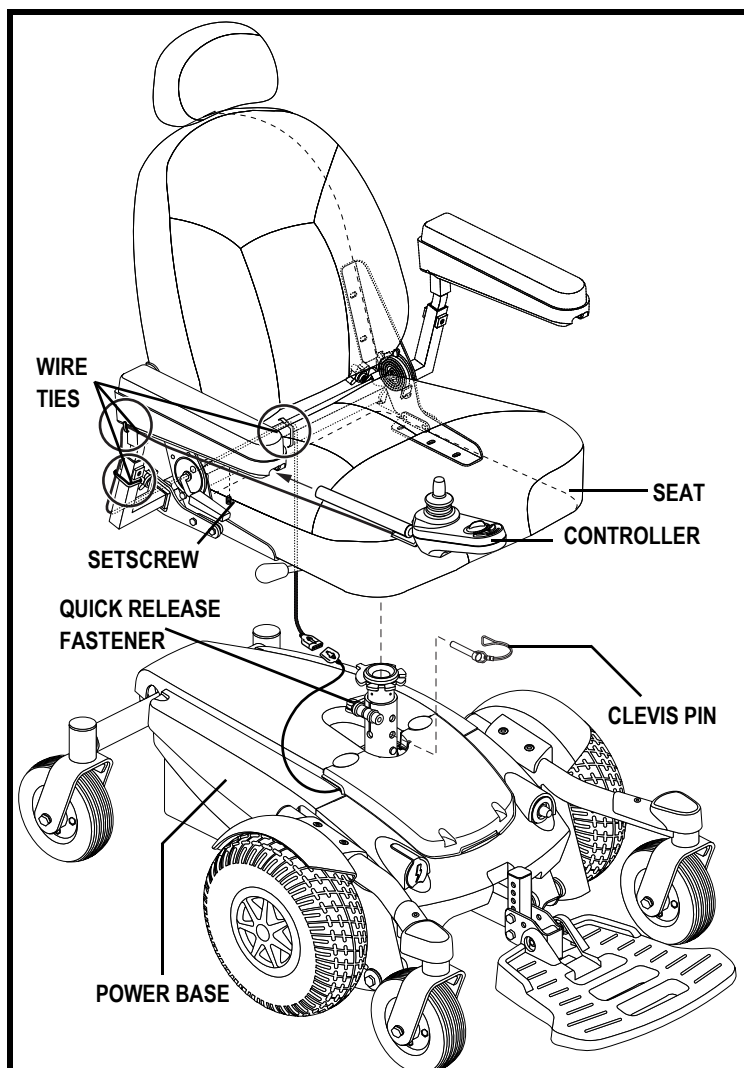

Figure 13. Seat and Controller Assembly
1. Slide the seat down onto the power base. See figure 13.
3. Install the controller into one of the armrests. Tighten the setscrew with the supplied hex key. See figure 13.
4. Lift the armrest straight up, then route the controller harness and secure with wire ties as shown in figure 13.